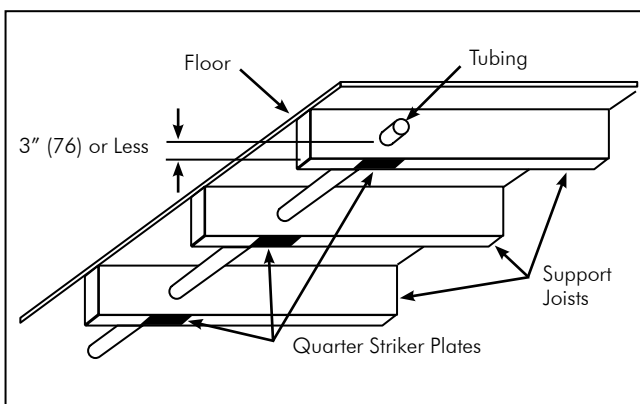

FIG. 4-15 Shielding Required for Tubing Running Through Joists Within 3" of a Potential Nailing Surface
- B. At support points and points of penetration less than 2" (51) away from any edge of a stud, joist, plate, etc. shielding is required at the area of support and within 5" (127) of each side (if appropriate). Use a half striker or a full striker plate in these locations.
- C. At support points and points of penetration 2" (51) to 3" (76) from any edge of a stud, joist, plate, etc. Shielding is required throughout area of support. Use a quarter striker plate in these locations (See **FIG 4-15**).